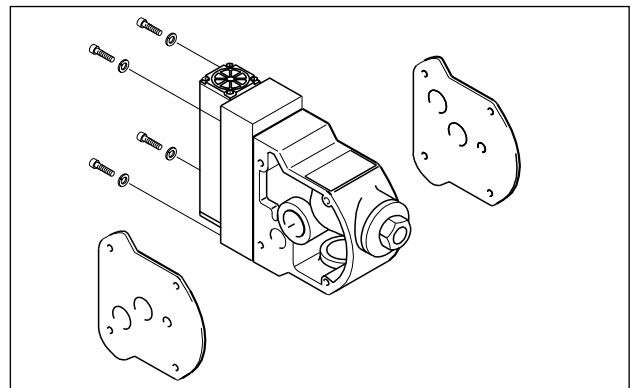

Fig. 18
- Loosen four fastening screws on the control block. Now you can pull out the complete control valve with pilot control. This is also possible without disassembling the pump! (Fig. 18)